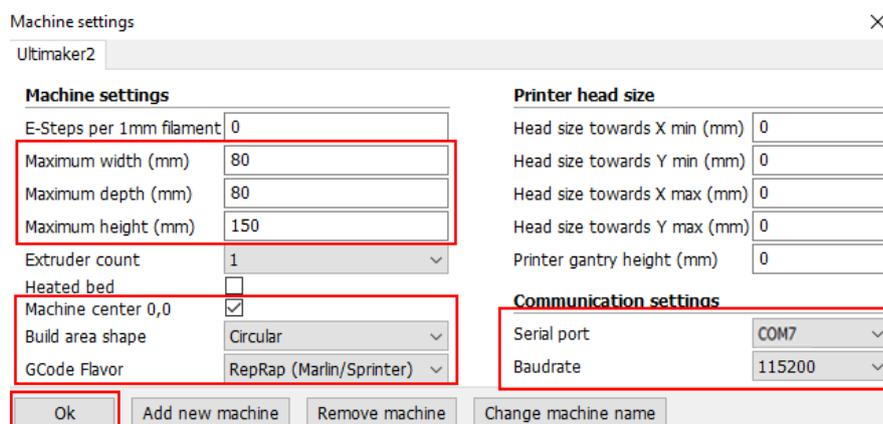

Figure 6.22 Parameters setting
2. Set the corresponding parameters on the Machine settings and click **OK**, as shown in Figure 6.22. Table 6.8 lists the values of the parameters that need to be set. The other parameters are set by default.